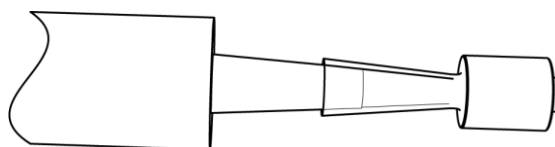

Figure 2: Mounting the Sep Pak on a syringe
2. Use a 10-mL syringe (see Figure 2), a dropper bottle, or a wash bottle as a solvent pump to flush the C18 Sep-Pack cartridge with 10 mL of undiluted 18% isopropanol at a rate of 5 to 10 mL per minute.